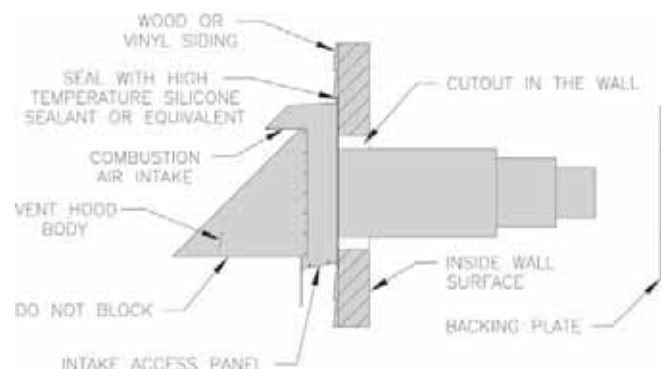

Figure 26: Vent Hood Body Installation
2. Direct Vent Conversion Kit Carton includes (see Figures 26, 27 and 28):
provide stable support. If siding thickness exceeds $\frac{1}{2}$ ", use a spacer bar or board behind the vent hood mounting (base) plate. See Figure 26.